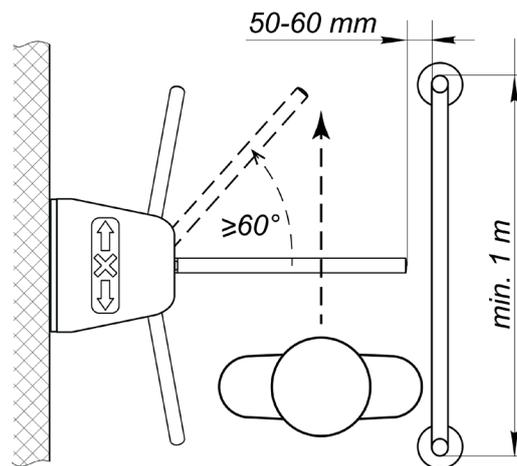

Figure 16. Passage area. Recommendations
c. Installation procedure for the **MT10.3** mounting rack (for the **TTR-10AB** modification) (Fig. 16):